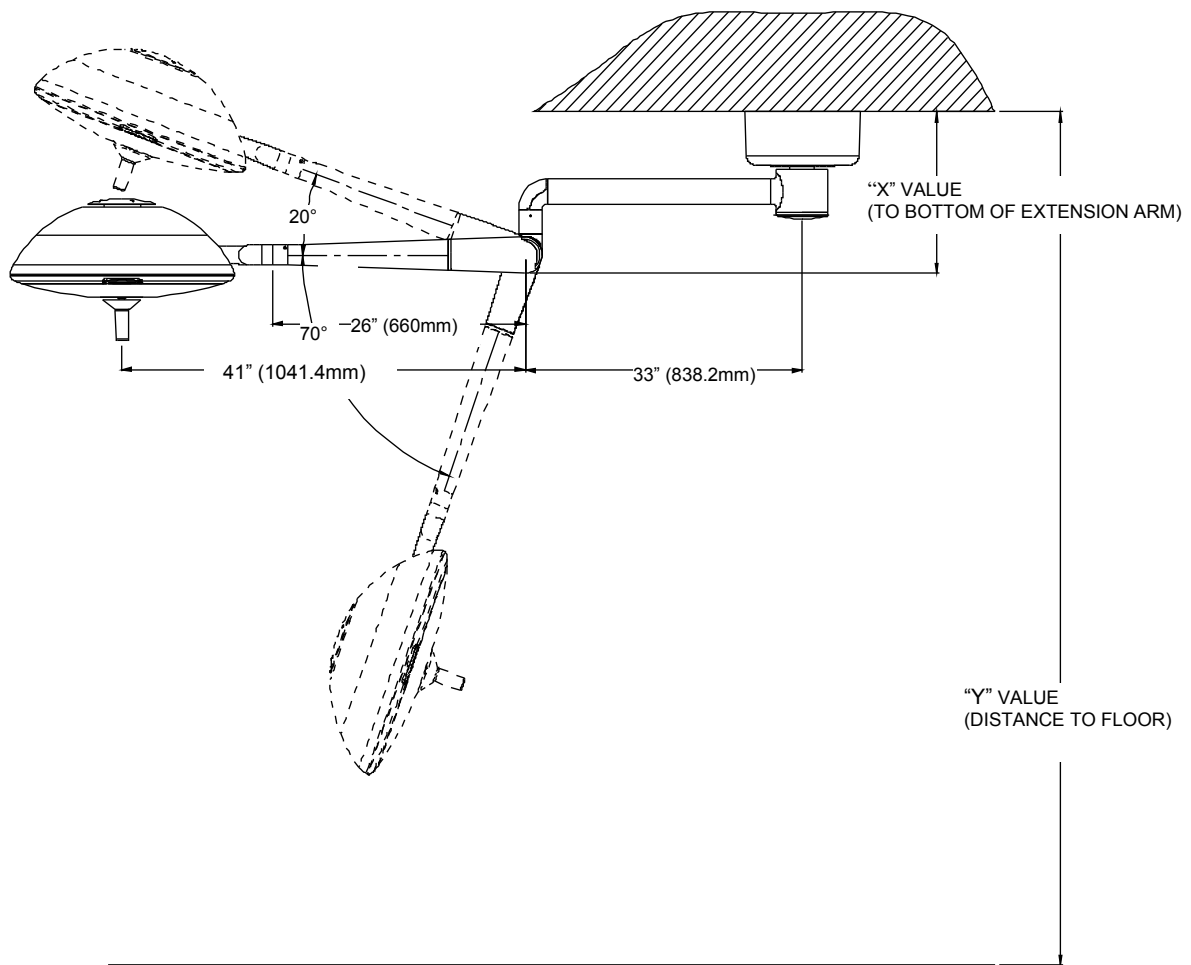

Figure 2: Ceiling Rod Calculation Solo Mount
Use the following table to select the correct length ceiling rod for your application (See Figure 2).
- Before installing the ceiling casting assembly to the arm spindle shaft, determine the appropriate extension rod length (see figures 2, 3 or 4).